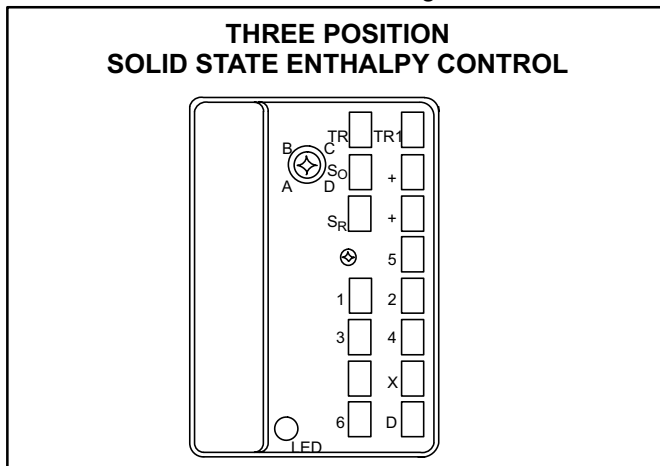

FIGURE 30
- 3 -Install jumper across enthalpy control terminals D and TR1. See figure 30 for location.
- 6 -Remove jumper installed in step 3. Install jumper across enthalpy control terminals X and TR1. See figure 30 for terminal location.